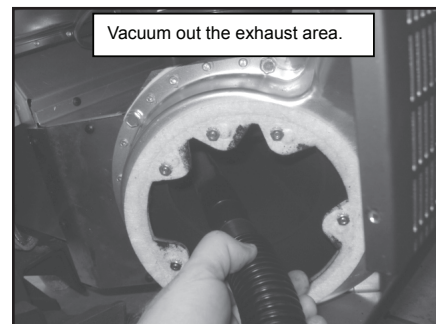

Figure 28.7
- Vacuum out the exhaust area (**Figure 28.7**).